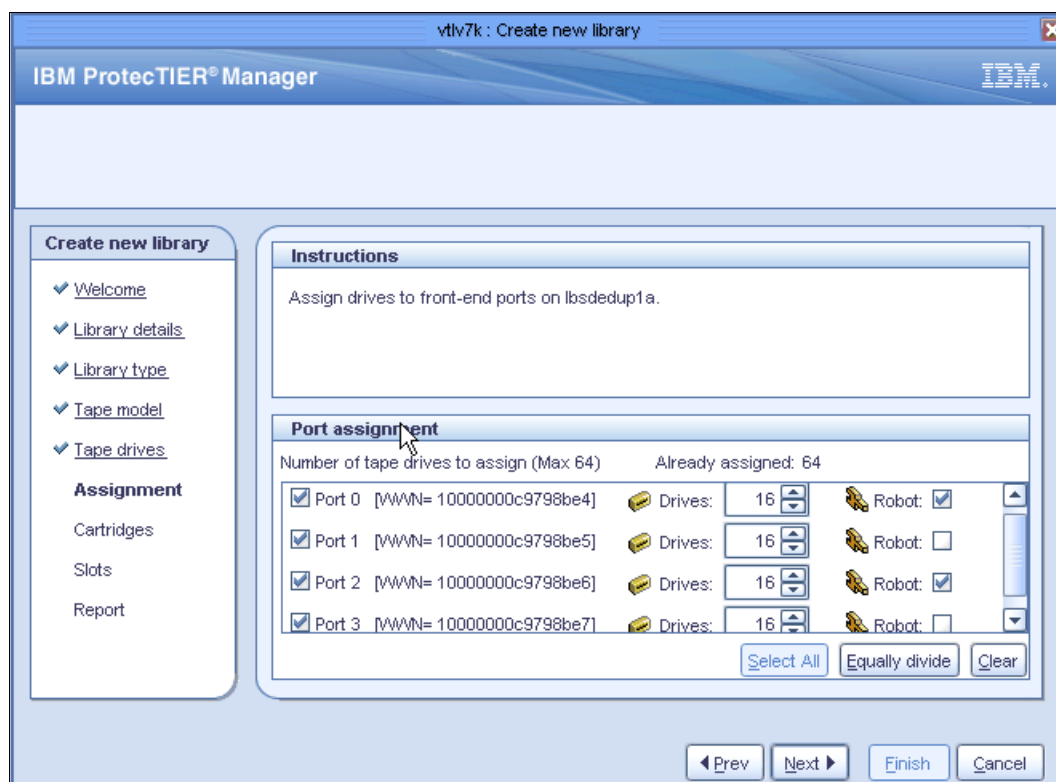

Figure 4-6 Create new library: Port assignment window
8. Click **Next**. The Port assignment window opens, as highlighted in Figure 4-6.
10. Click **Next**. If a second node exists in your cluster, the Assignment (2) window opens. Complete the same steps as you did in Figure 4-6 for your first cluster.